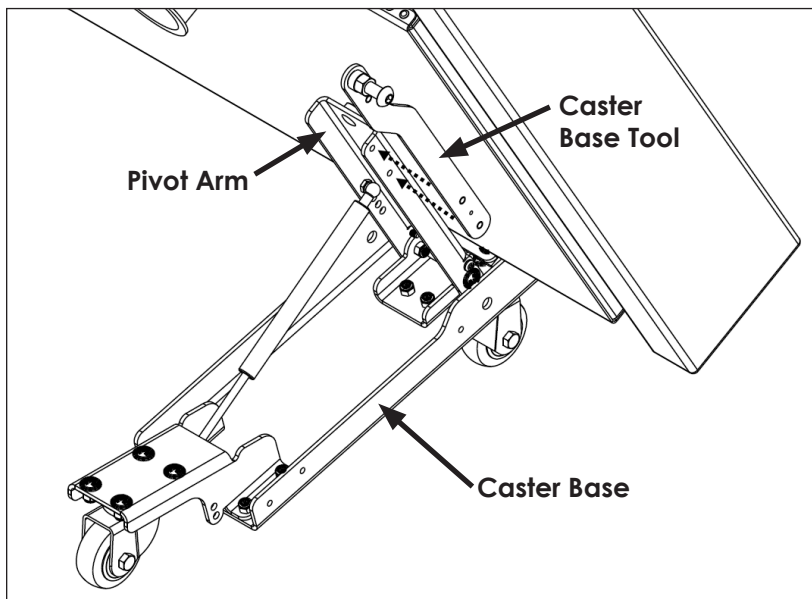

Figure 19: Insert Caster Base Tool into Pivot Arm
2. Locate the Caster Base Tool in the bottom channel of the right caster base. Line up and insert the studs on the Caster Base Tool with the mating holes in the side of the pivot arm on the caster base. Refer to **Figure 19**.